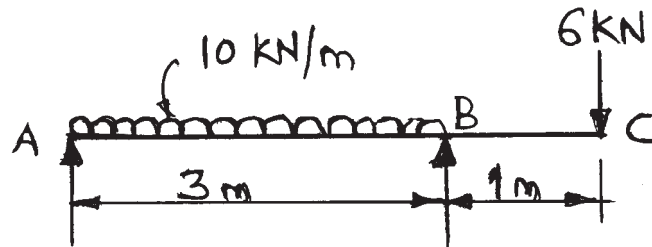

Fig. No. 3
- c) Draw SF and BM diagrams for an overhanging beam as shown in Figure No. 3. Locate point of contra shear and calculate maximum bending moment.